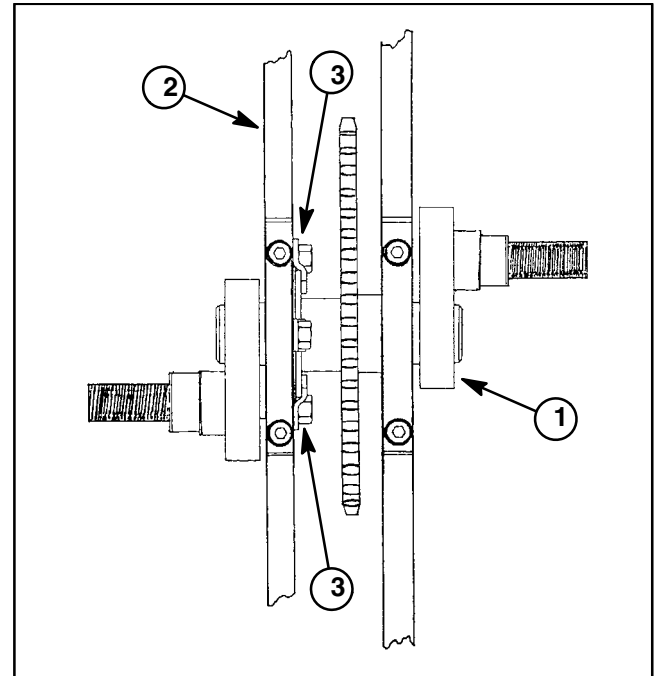

Figure 10
3. Position crank arm assembly to coring head frame. Make sure that bearing with retaining ring is placed at retaining clips on the outer coring head frame plate (Fig. 10).